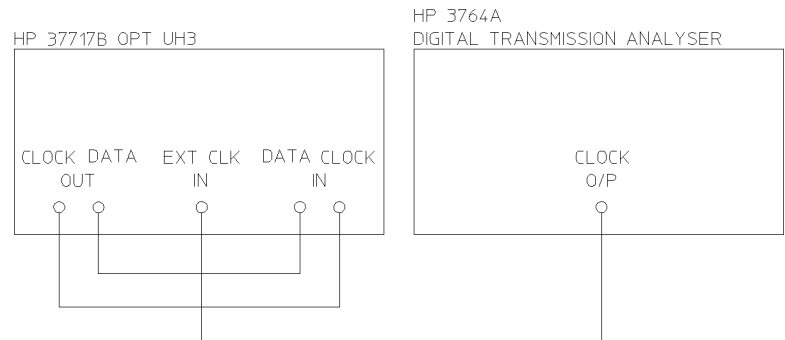

Figure 3-55
2. Connect up the equipment as shown in Figure 3-55.